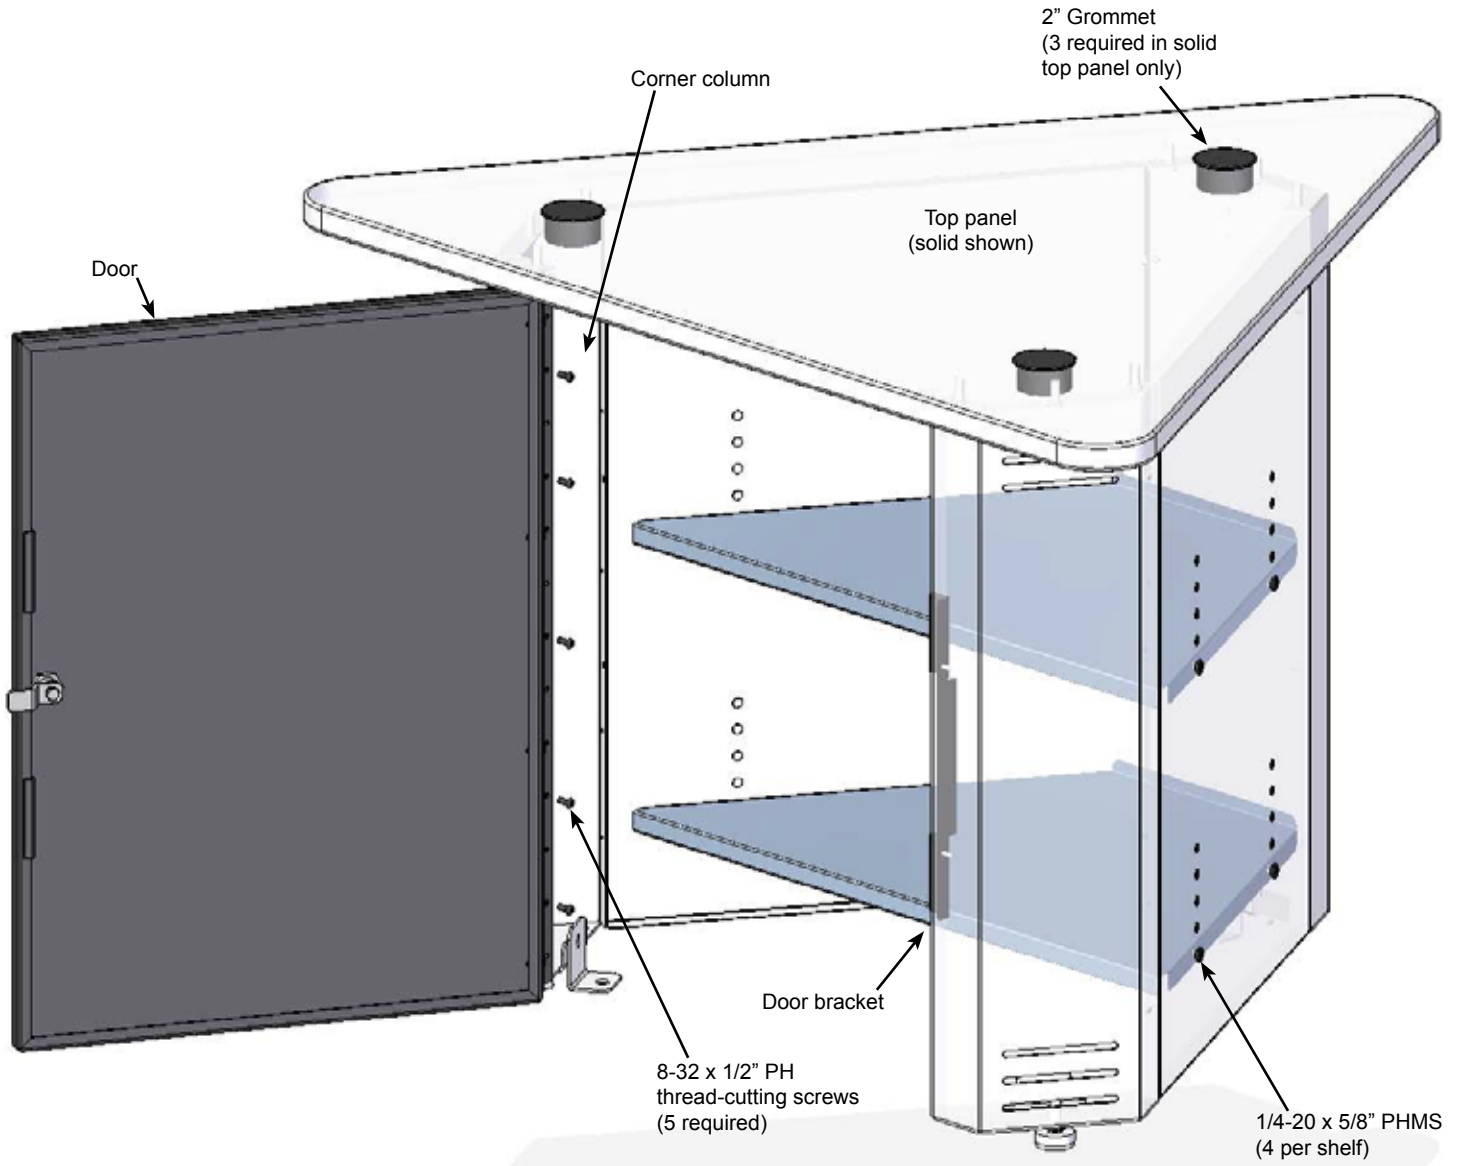

Figure 2D
9. Install the two adjustable shelves at the desired height and attach to the side panels with (4) 1/4-20 x 5/8" PHM screws and tighten securely. **Figure 2D.** Use the lowest set of mounting holes when installing the lower shelf.
10. Attach the door to the corner column (opposite the door bracket) with (5) 8-32 x 1/2" PH thread-cutting screws. Be careful not to overtighten these screws.
11. Install (3) 2" grommets in the top panel.